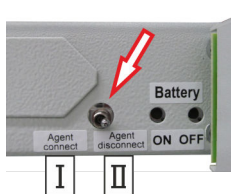

Fig. 14: Blocking switch
- Switch the blocking switch (Fig. 14/arrow) to "Agent disconnect [blocked]" (Fig. 14/ II) prior to the return transport of the complete system.